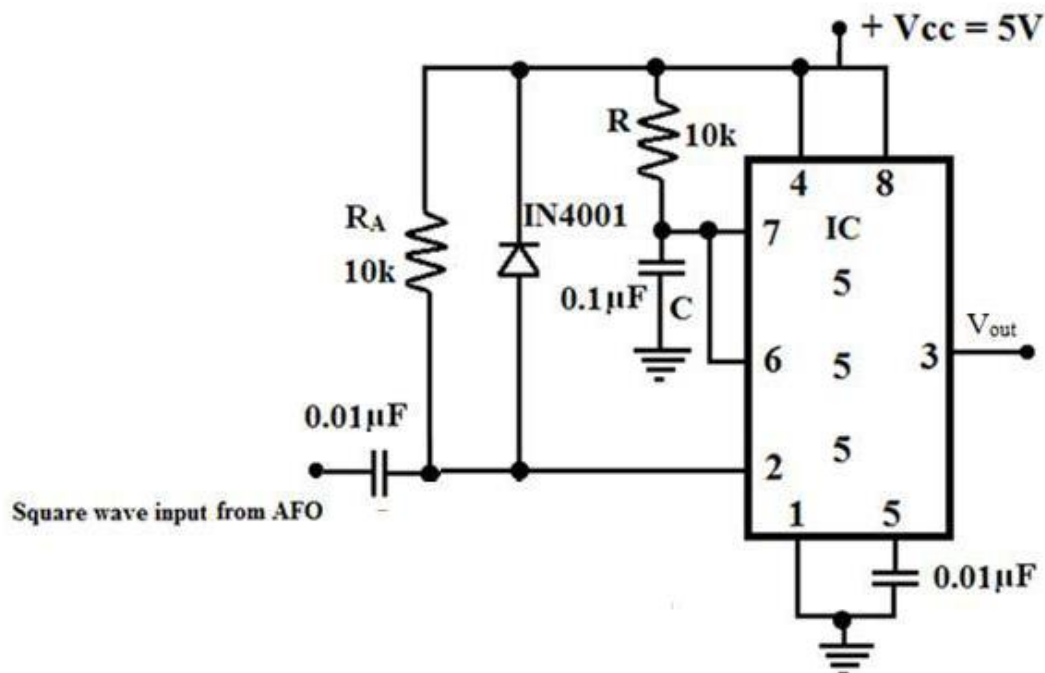

Fig. 10.3 Monostable multivibrator
1. Rig up the circuit as shown in Fig. 10.3.